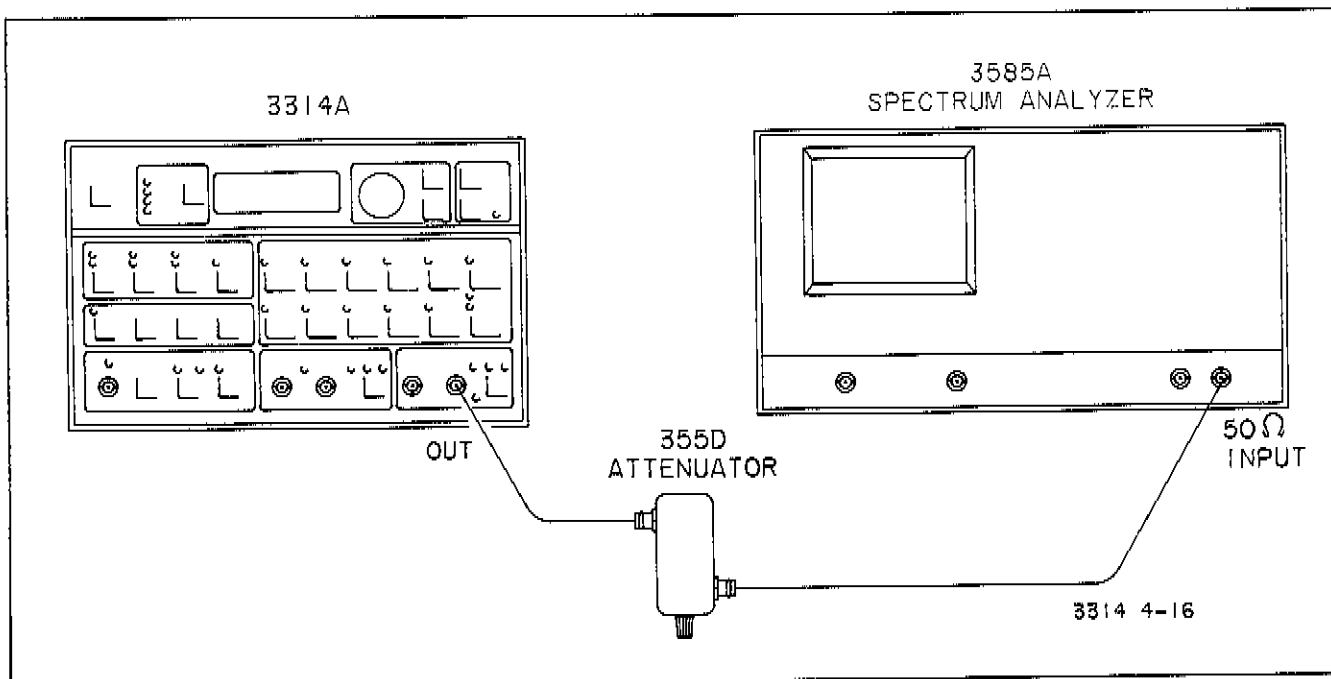

Figure 4-16. Step Attenuator Accuracy
D. Connect the 3314A to the Attenuator and Spectrum Analyzer as shown in Figure 4-16.